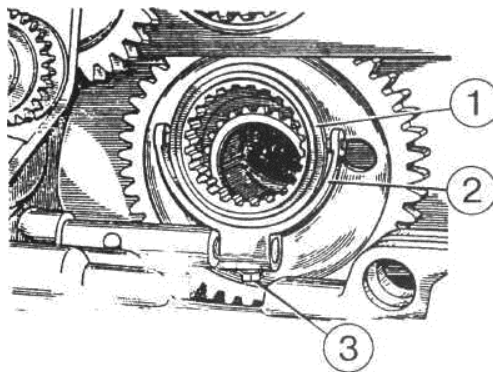
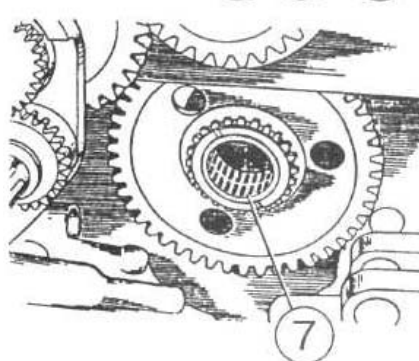

Figure 4.31
Figure 4.33
- k) remove locking wire, unscrew bolt 3 (Figure 4.31) for fastening yoke 2;
- o) extract yoke 2 (Figure 4.31) and gear 7 (Figure 4.33) of I stage of reduction gear.